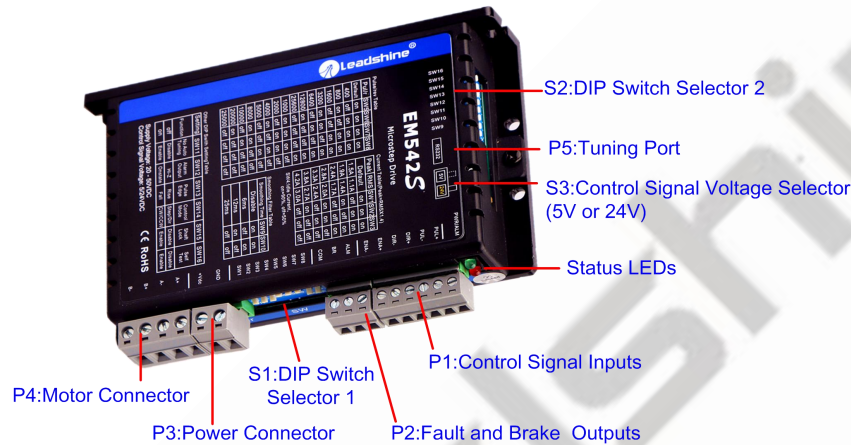

Figure 2 Connectors, DIP switches, and LED locations
PUL+ (CW+)	Pulse and Direction Connection: (1) Optically isolated, high level 4.5-5V or 24V, low voltage 0-0.5V (2) Maximum 200 KHz input frequency, 500KHz customized model is available (3) The width of PUL signal is at least 2.5μs, duty cycle is recommended 50% (4) Single pulse (step & direction) or double pulse (CW/CCW) is set by DIP Switch SW14 (5) DIR signal requires advance PUL signal minimum 5 μs in single pulse mode (6) The activated edge of PUL and DIR is set by DIP Switch SW13 (7) The factory setting of control signal voltage is 24V, must need to set S3 (figure 2) if it is 5V Enable Connection: Optional. (1) Optically isolated, differential. (2) Disable the drive by 4.5-5.0V or 24V input connection; enable the drive by 0-0.5V connection(default no connection) (3) ENA signal requires advance DIR signal minimum 5μs in single pulse mode (4) The default control signal voltage is 24V, to set S3 (figure 2) if it is 5V (5) Enable time to be at least 200ms
The EM542S can accept differential or single-ended control signals (pulse, direction, and enable) in open-collector or PNP connection through the P1 connector (figure 2). It is recommend to add an EMI line filter between the power supply and the drive to increase noise immunity for the drive in interference environments.
The first 8-bit is located on the side (DIP switch selector 1 in Figure 2) and used to configure settings of micro step resolution, output current, and motor standstill current as shown below, the factory setting of SW1-SW8 is ON, ON, ON, OFF, OFF, OFF, ON, ON.
The second 8-bit DIP switch is located on the top (DIP switch selector 2 in figure 2), and used to configure settings of control command filtering time, motor auto-configuration, fault output impedance, pulse active edge, control mode, lock shaft, and self-test as shown below, the factory setting of SW1-SW8 is OFF, OFF, OFF, OFF, OFF, OFF, OFF, OFF.
The Third 1-bit selector is located on the top (DIP switch selector 3 in figure 2), used to configure the voltage of control signals. For the safety of optically coupled, the factory setting is 24V, which no need to connect 2K resistors like the old drives, making it easier to use. When the voltage of the control signal is 5V, the S3 must be set to 5V, otherwise, the motor won't work.